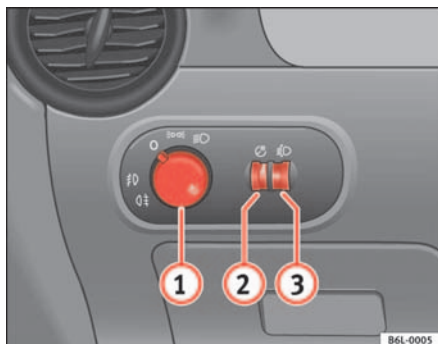

Fig. 55 Detail of the dash panel: Switch for lights, fog lights and rear fog light
- Turn the light switch \Rightarrow fig. 55 to position \Rightarrow .